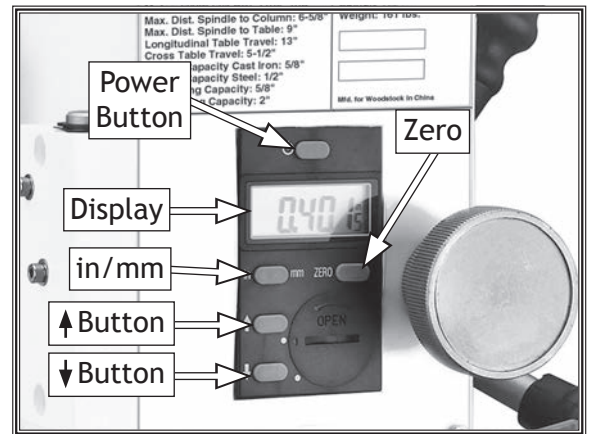

Figure 18. Identification of spindle depth DRO controls.
1. Press Power/⏻ button (see Figure 18). A reading should appear on display.